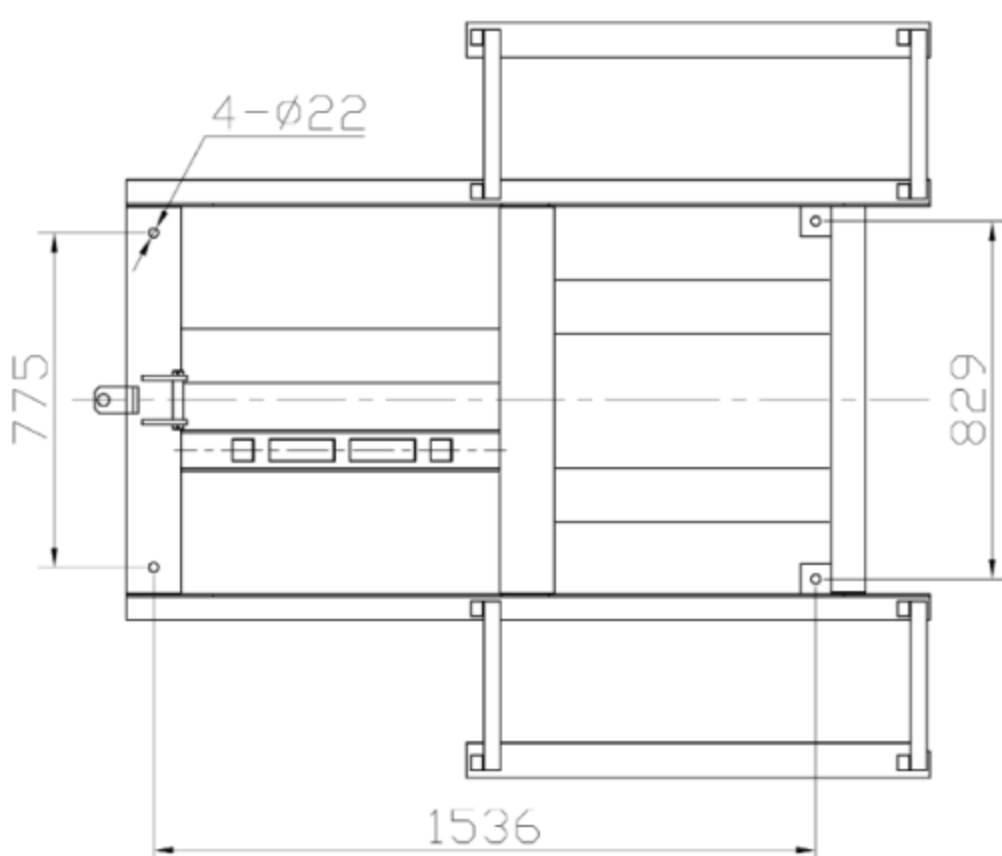

Fig. 17
5. There are four fixed holes in the machine, can fix the machine on ground by 3/4 X 4 3/4" anchor bolts (See Fig.17).